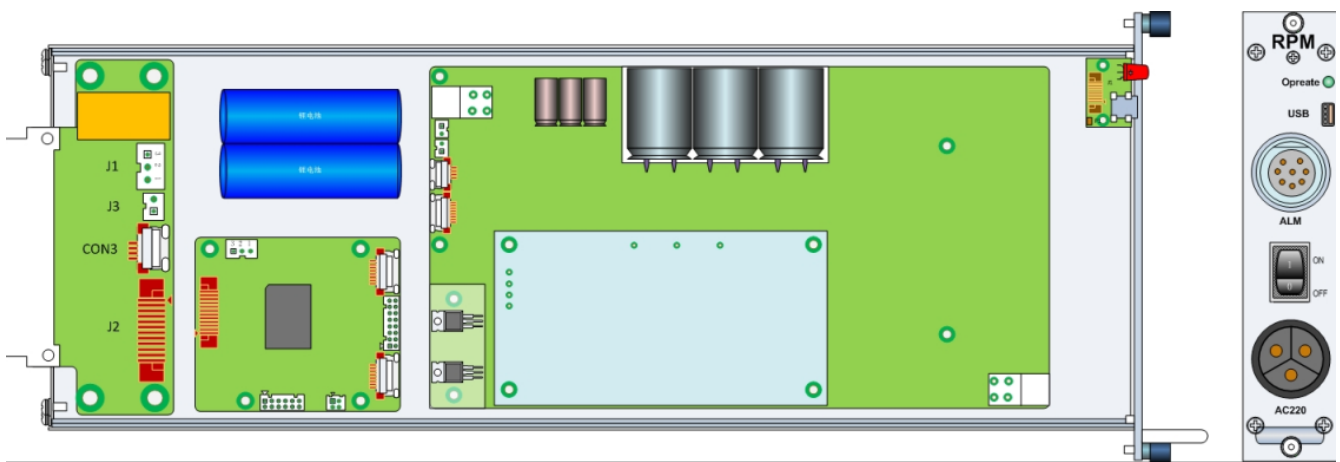

Figure 19 RPM interior layout
1. Find the screw at the bottom right corner of the Host Unit as shown in Figure 19.